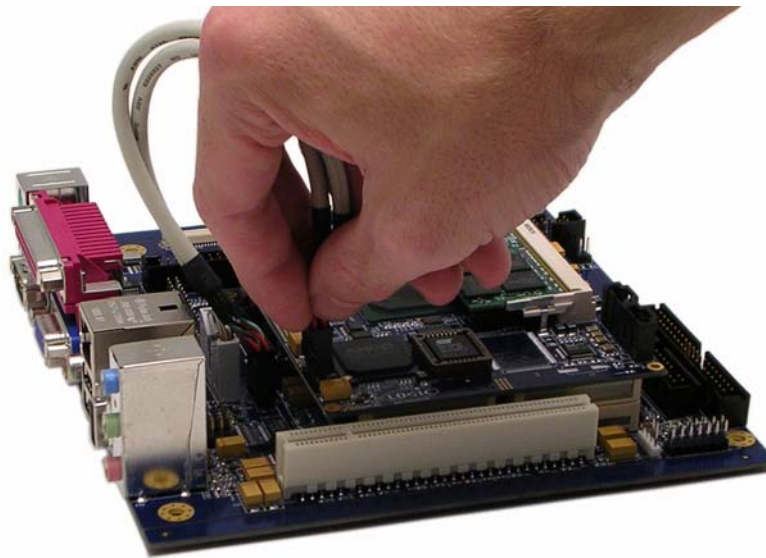

Figure 3.5 – LX SOM-ETX Module
- 2) Connect the other end of the USB interconnect cable to the LX SOM-ETX module (see Figure 3.5).